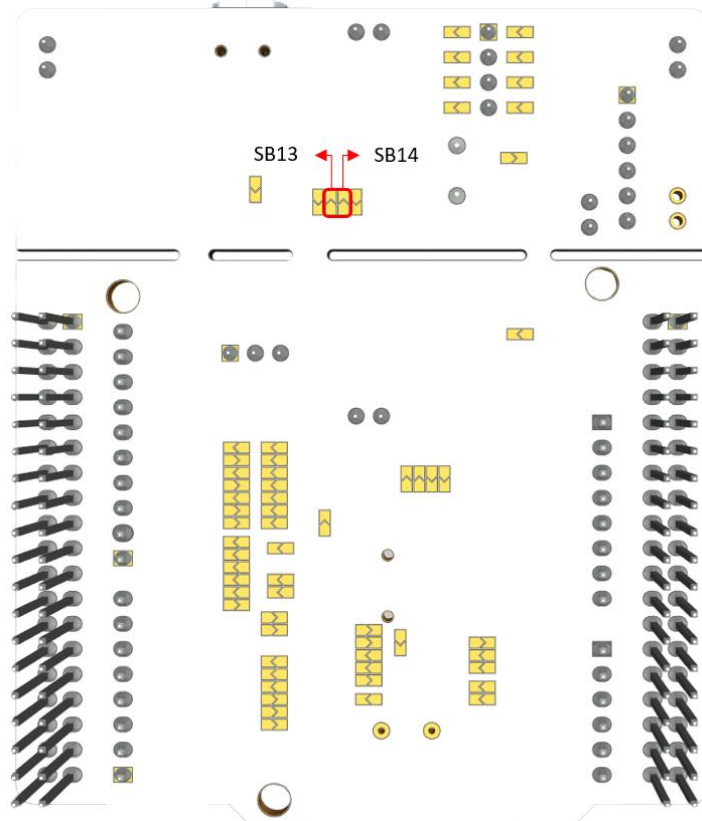

Figure 9: STM32 Nucleo bottom view.
1. Open SB13 and SB14 resistors, on the bottom side of STM32 Nucleo board. Figure 9 shows the location of these two resistors.